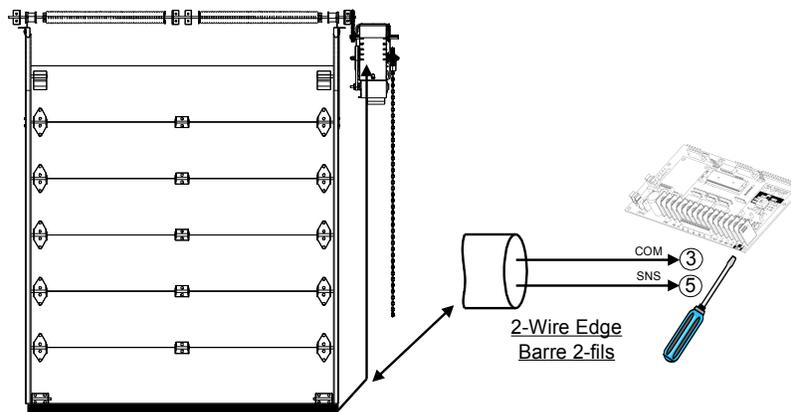

Figure 32 - Electric Reversing Edge
3. Use a coil cord or take-up reel to connect the sensing edge wires to the operator terminals. Install electric wires according to Figure 32.